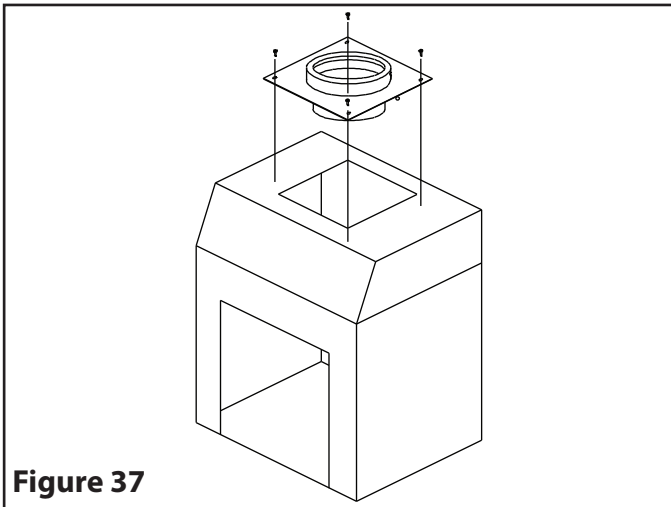

Figure 37
Once the appliance is installed, bolt the Anchor Plate (AP) to the appliance using appropriate fasteners. See Figure 37. Secure the first section of chimney to the AP using the 4 supplied sheet metal screws.